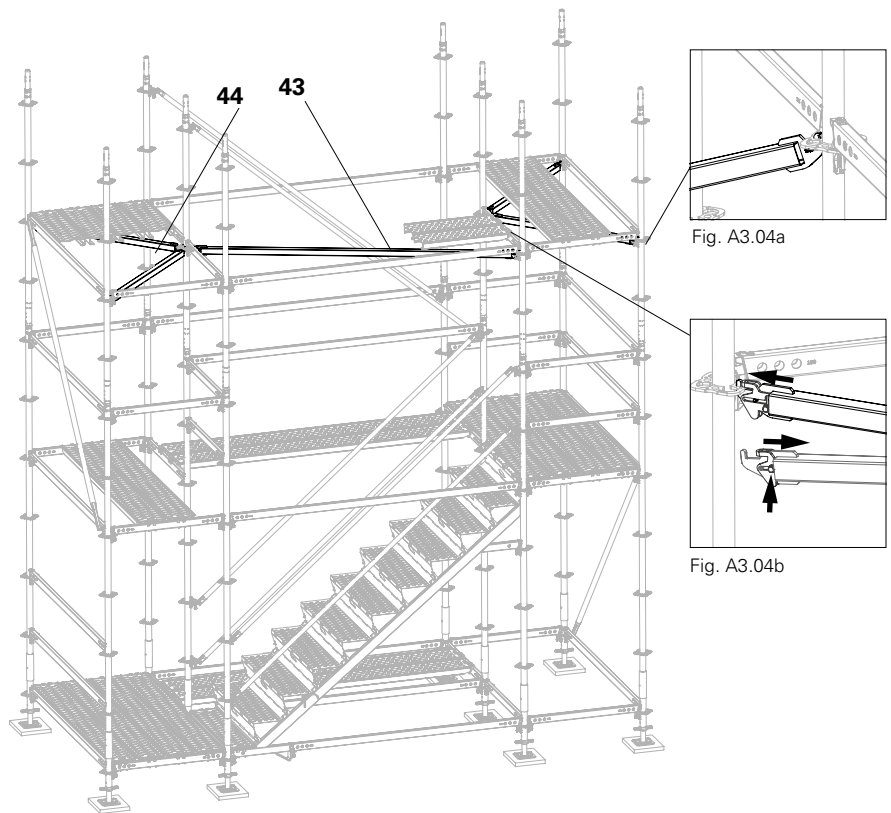

Fig. A3.04
- The H-Braces UBH Flex are mounted and secured. (Fig. A3.04)